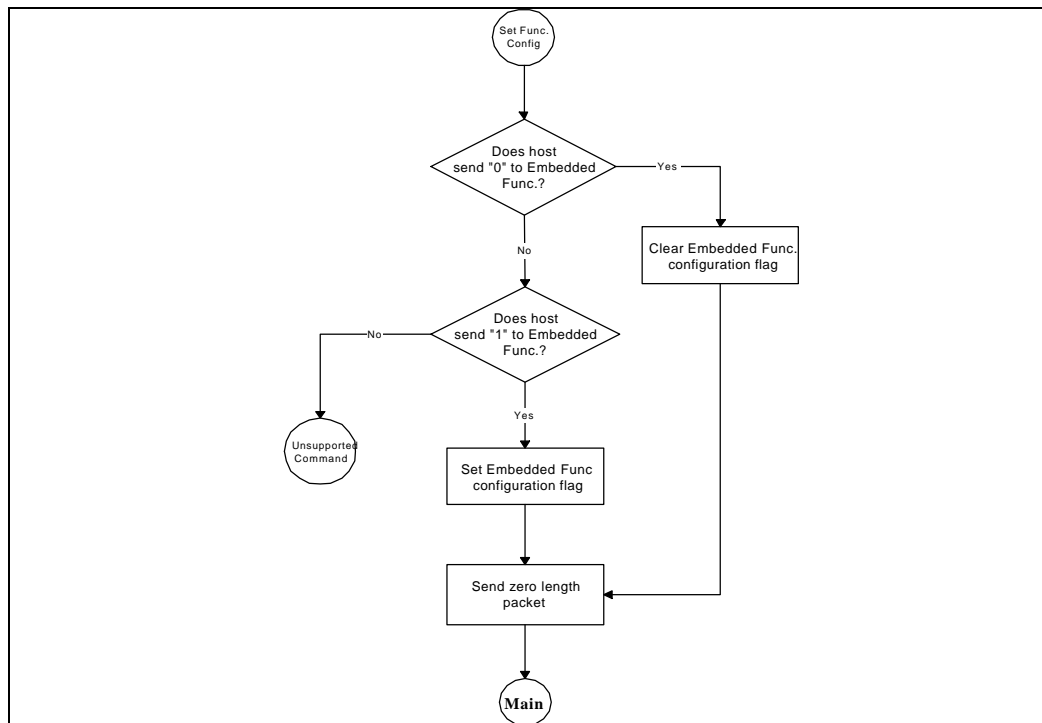

Figure 31: Embedded Function Set Configuration Standard Command
- Set Function Configuration (Figure 31)